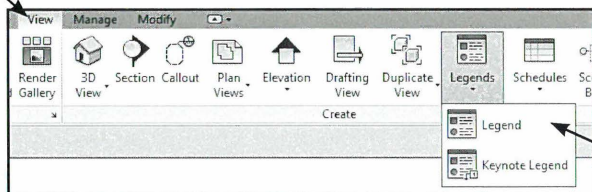

Fig. 12.01. View - Legend.
- Klik *View* - *Legends* - *Legend* (Fig. 12.01).